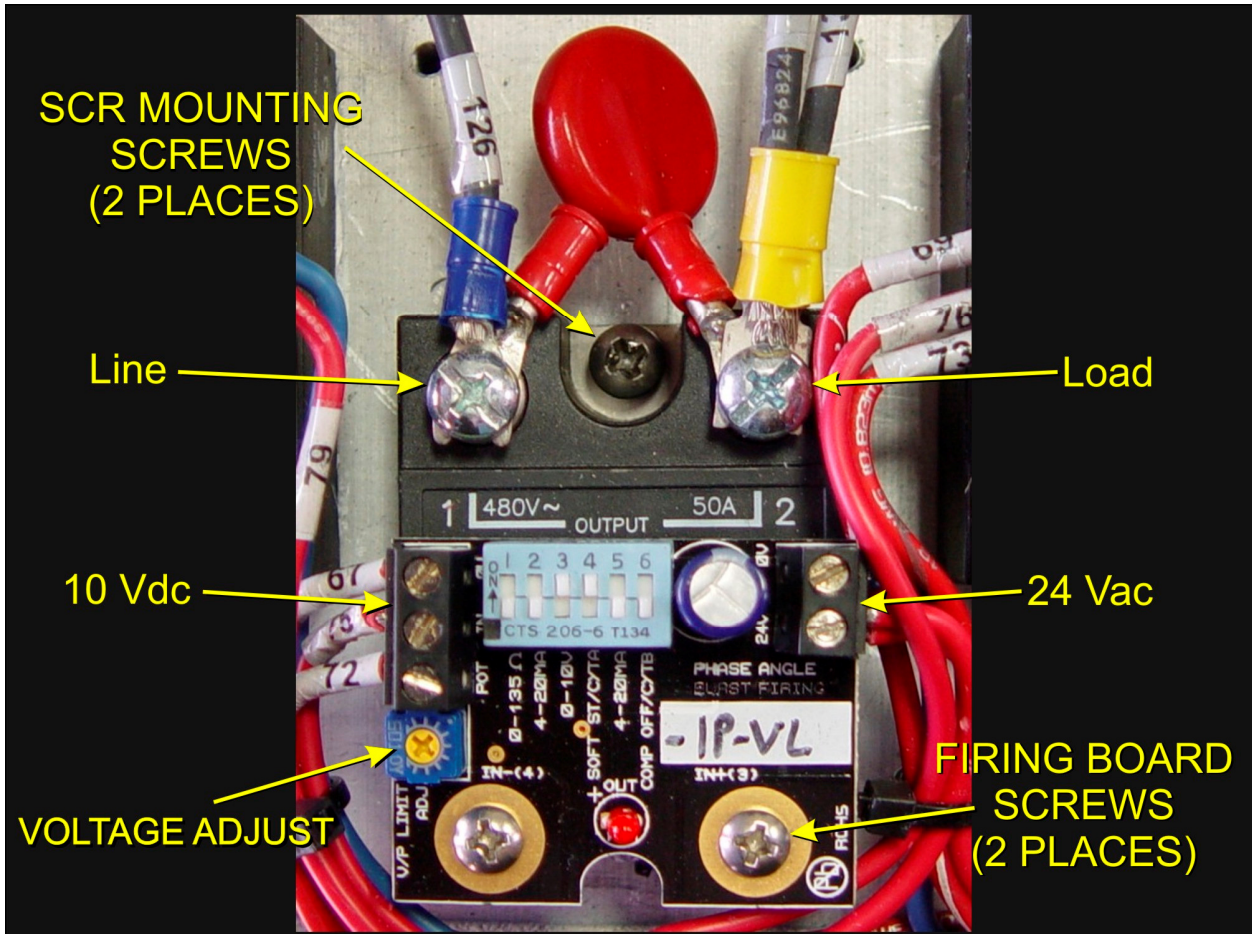

Figure 4-44 SCR installed
To remove the entire SCR assembly, disconnect the 10Vdc and the 24 Vac wire pairs. Unscrew the Line and Load wires. If you are only replacing the firing board, remove the (2) firing board screws. If you are removing the entire assembly, remove the (2) SCR Mounting screws. See Figure 4-44.